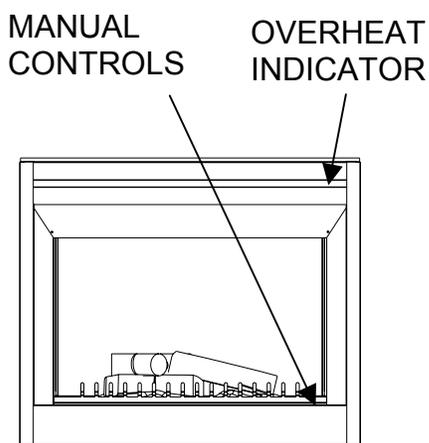

FIGURE 4
2. Access the manual controls, (remove glass doors if applicable) pull the right hand steel curtain to the side of the unit. (FIGURE 4)
The heater on this fireplace is protected with a safety device to prevent overheating. Should the heater overheat, a red light (**Fig. 4**) will be activated and an automatic cut out will turn the heater off. The heater will re-activate once the heater has cooled. The overheat cutout will be triggered if the filter is dirty.